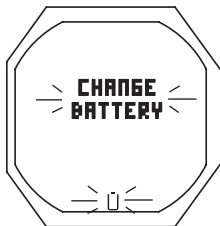

Fig. 3 - OC1 LOW BATT
- Low Battery icon (shell only with no inner bar) flashes for 5 seconds and operation reverts to Watch Time with Compass allowed (view only) until the Battery is changed or voltage cannot sustain operation ( $< 2.35$  volts), then the graphic CHANGE BATTERY flashes (Fig. 3) until the Battery is changed or voltage drops to the level at which operation cannot be maintained.